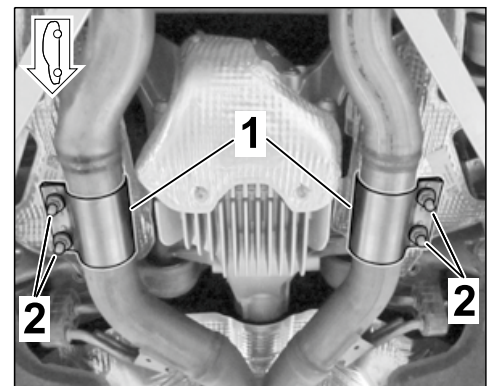

Figure 27
- 3.5.4 Align clamping sleeve (\varnothing 65 x 88, 2 x) on exhaust pipe on front silencer/rear silencer (at the left/right) so that the clamping sleeve is not touching/rubbing at any point (⇒ *Figure 27*).